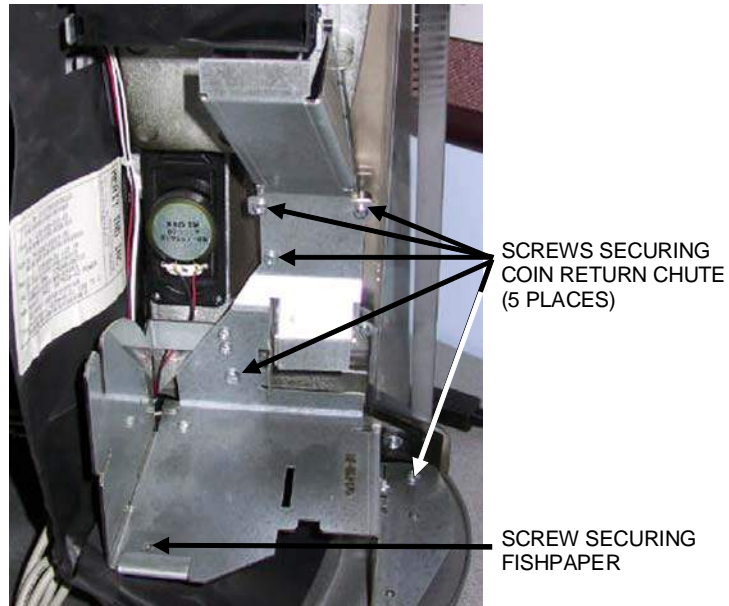

FIGURE 15 - REAR VIEW OF COIN RETURN CHUTE
16. If you haven't done so already, take the coin box out of the game. Remove the five screws securing the coin return chute, then take it out of the system. See Figure 15 for screw location.
17. Remove the screw that secures the fishpaper to the bottom of the coin return chute (see Figure 15) and place the coin return chute off to the side.
28. Secure the fishpaper to the bottom of the coin return chute by replacing the screw you removed earlier (see Figure 15).
29. Put the coin return chute in place in the unit, then resecure it with the five screws you removed earlier (see Figure 15).